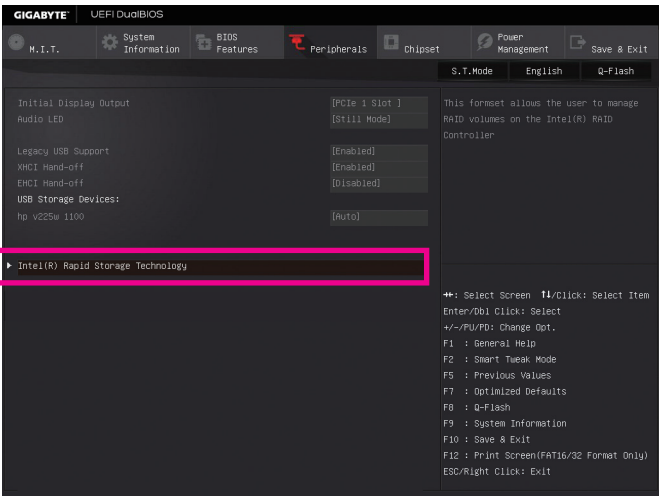

Figure 3
- After the system reboot, enter BIOS Setup again. Then enter the **Peripherals\Intel(R) Rapid Storage Technology** sub-menu (Figure 3).